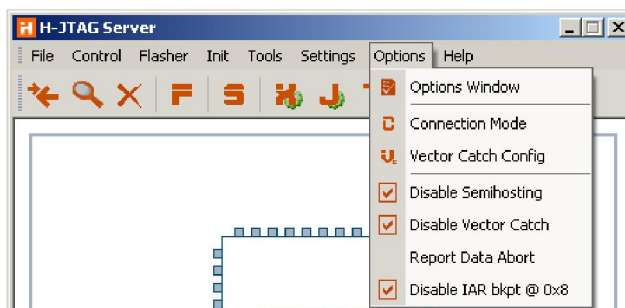

Fig 2-14 Options Menu
- Options menu, as shown in Fig2-14.